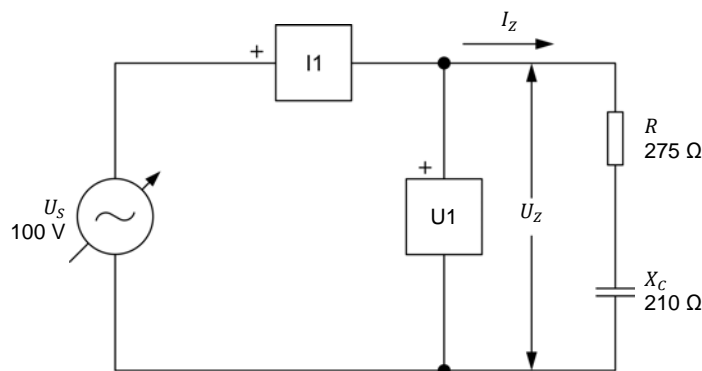

Figure 2-19. Series ac circuit containing a resistor and a capacitor.
30. Set up the circuit shown in Figure 2-19.